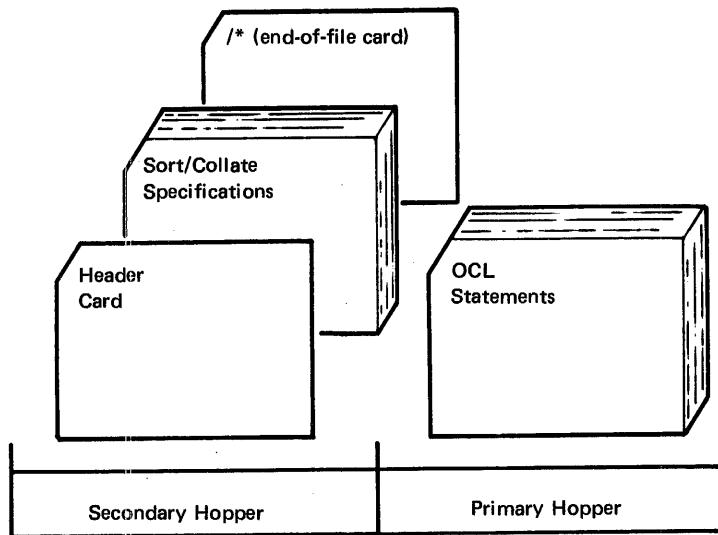
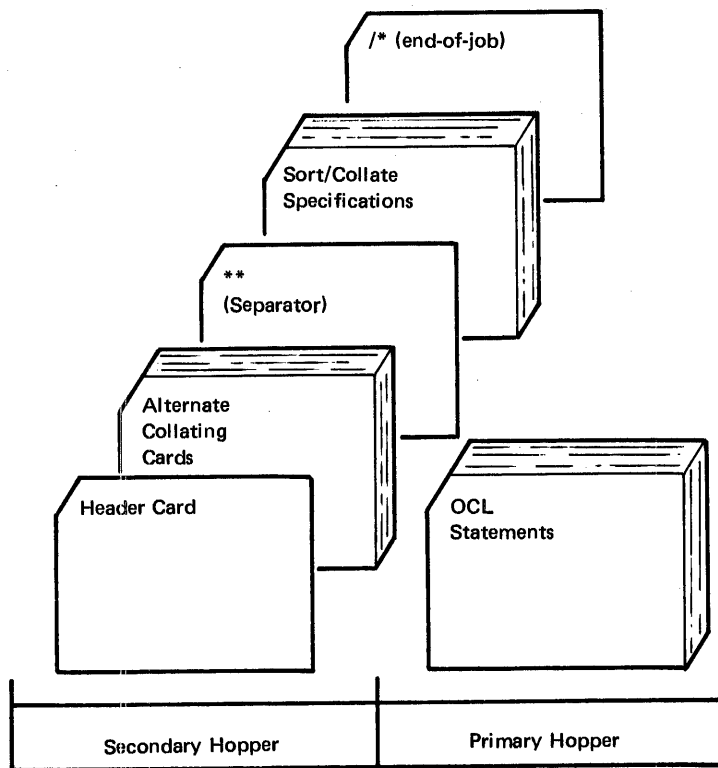

Figure 30. Input for Sort/Collate Without Alternate Collate Cards.
Figure 31. Input for Sort/Collate with Alternate Collate Cards.
4. Place sort specification cards in secondary hopper of MFCU. Figure 30 shows the input for sort/collate without alternate collating. Figure 31 shows the input for sort/collate with alternate collating.